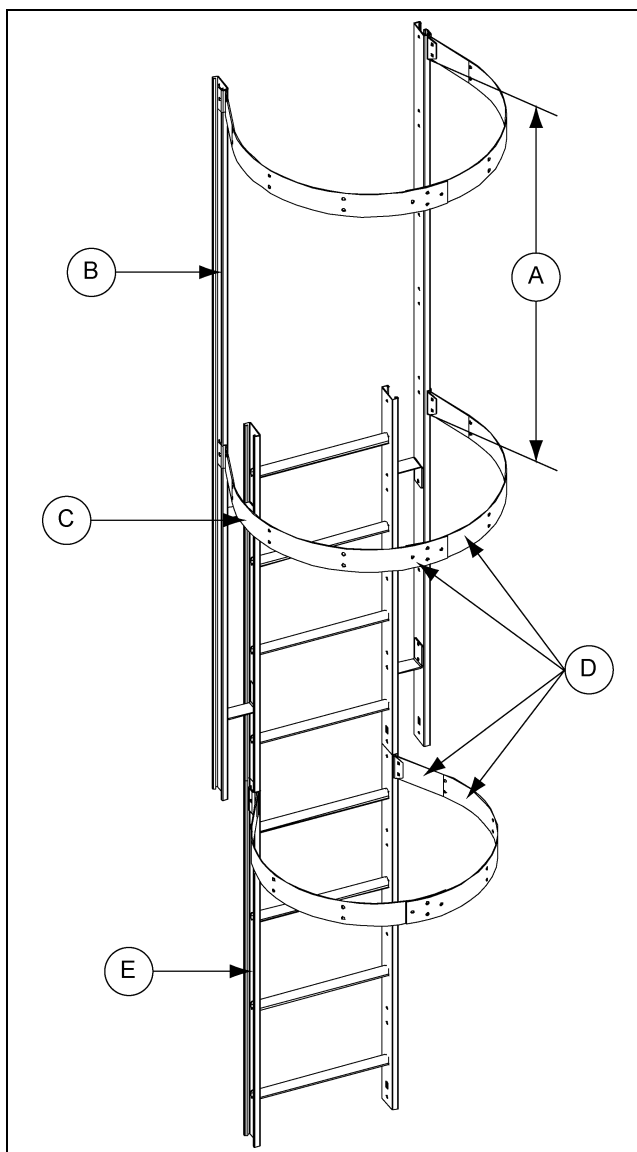

Figure 9C
To complete the safety cage hoop installation, some pre-assembly is required. Attach four (4) safety cage brackets to the extension rails and two (2) safety cage brackets to the second 4' ladder section as shown in Figure 9C. See cage hoop bracket detail on Page 40 for proper installation. Next, bolt each set of safety cage hoop halves together using 5/16" x 1" bolts with the head of the bolt to the inside of the safety cage. You may now bolt these assemblies to the safety cage brackets. Tighten bolts as you go.
Attach the vertical supports to the hoop half assembly from the final safety cage installation using 5/16" x 1" bolts and nuts with the head of the bolt to the inside of the safety cage. Assemble the special bell hoop halves and attach to the other end of the vertical supports. The vertical supports must be bent at the flat area to allow for the angle of the bell section. Attach the safety cage brackets to the ladder as shown in Figure 9C on Page 39. Once the safety cage brackets are installed, attach the bell safety cage hoop half assembly to the safety cage brackets. Tighten bolts as you go.